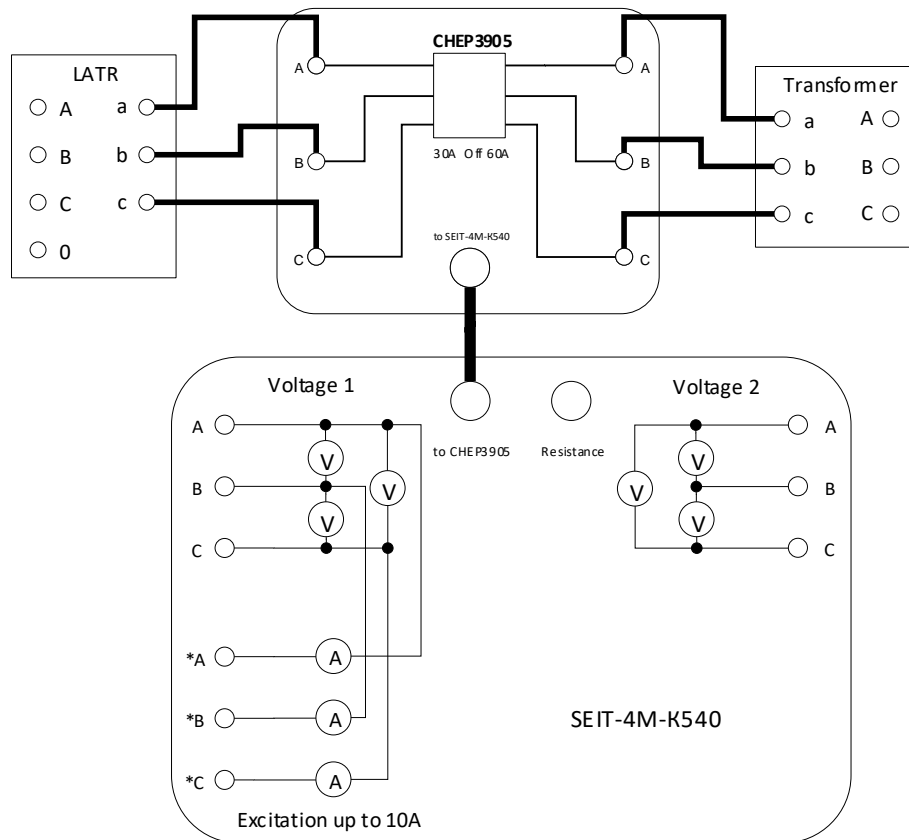

Fig. 11. Connection Circuit for an Open-Circuit Test at Rated Voltage using CTU.
5.3.1.2. When using CTU, assemble the circuit shown in Fig.11.